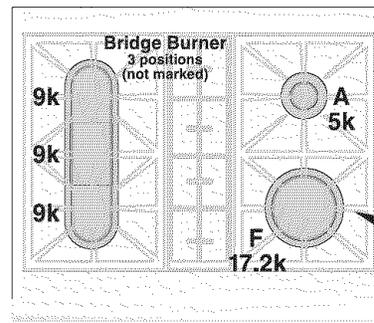
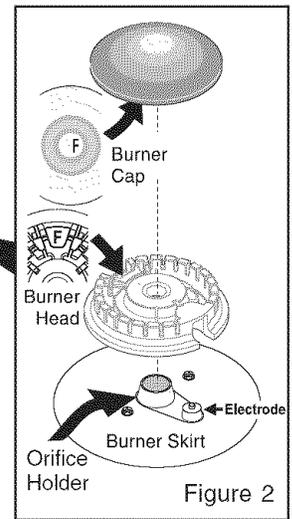
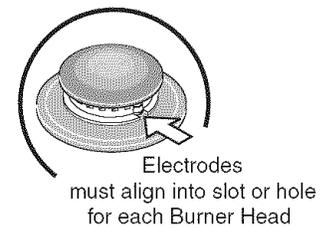

Figure 1
Figure 2
Figure 4
2. Remove all packing tape from cooktop. Remove Burner Caps and Burner Heads (See Figure 1).
4. To replace Burner Heads & Caps, match the letters located under center of Burner Caps with the letters located inside Burner Head (only positions A & F are marked with letters - See Figure 2). Place all Burner Heads & Caps on the cooktop (See Figure 1) while carefully aligning the Electrodes into slots or holes of the Burner Heads (Figure 4). Note: The Burner Heads should sit flat on Cooktop Burner Skirts.